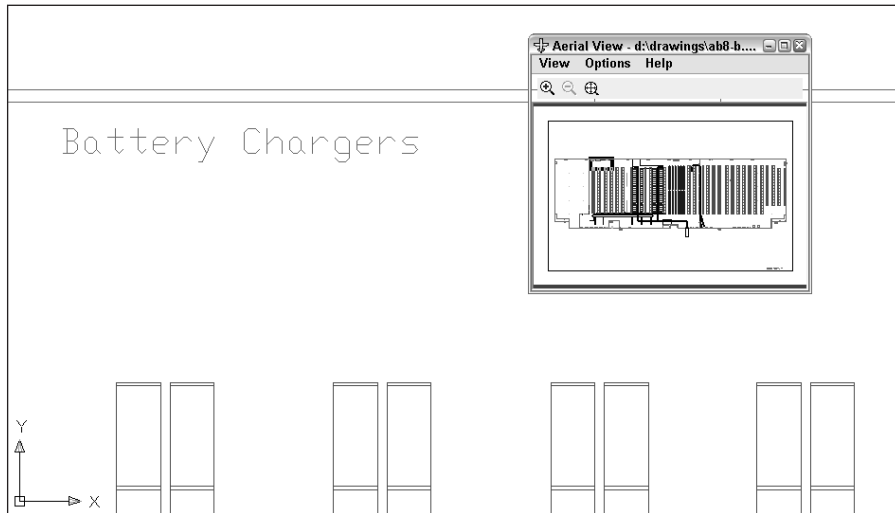

Figure 8-10: Zooming in on the top-left corner of the warehouse. You can now see the text, which reads “Battery Chargers.”
6. Click again to start panning and zooming. Using the same technique as you just used in Step 4, pan to the top-left quadrant of the warehouse. Zoom in again if necessary until you can read the text at the top-left corner of the shelving area and right-click. (The red columns represent shelving in the warehouse.) Your screen should look approximately like Figure 8-10.